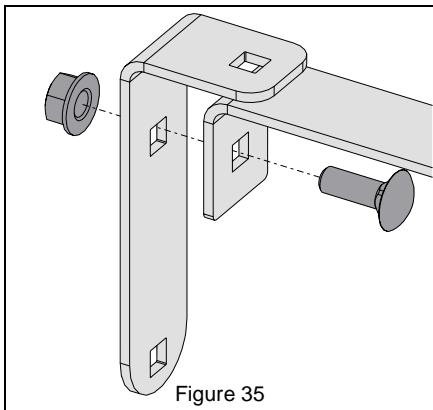

Figure 35
2. Remove hardware from L-bracket and secure L-bracket to battery bracket. See Figure 35.